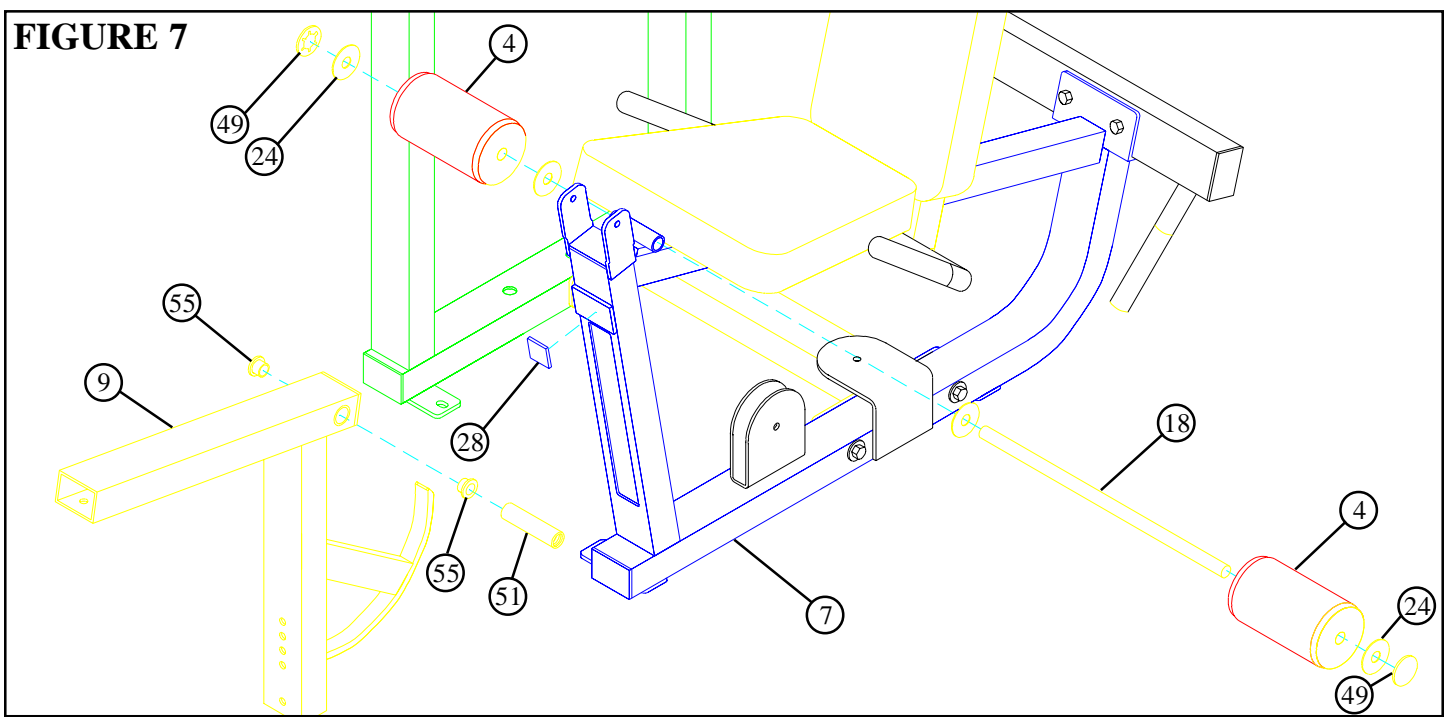

FIGURE 7
- Assemble two ROLLER PADS (4) to the BENCH FRAME (7) using one 18-1/4" SHAFT (18), four PLASTIC WASHERS (24), and two STARLOCK COLLARS (49) as shown in FIGURE 7.
- Assemble one 1-1/4" RUBBER BUMPER (28) to the middle of the plate on the BENCH FRAME (7) as shown on FIGURE 7.
- Insert two 3/4" FLANGE BEARINGS (55) into the bushing of the LEG PEDESTAL (9), then slide the 3/4" DIA TAPPED SHAFT (51) into the 3/4" FLANGE BEARINGS (55) as shown in FIGURE 7.